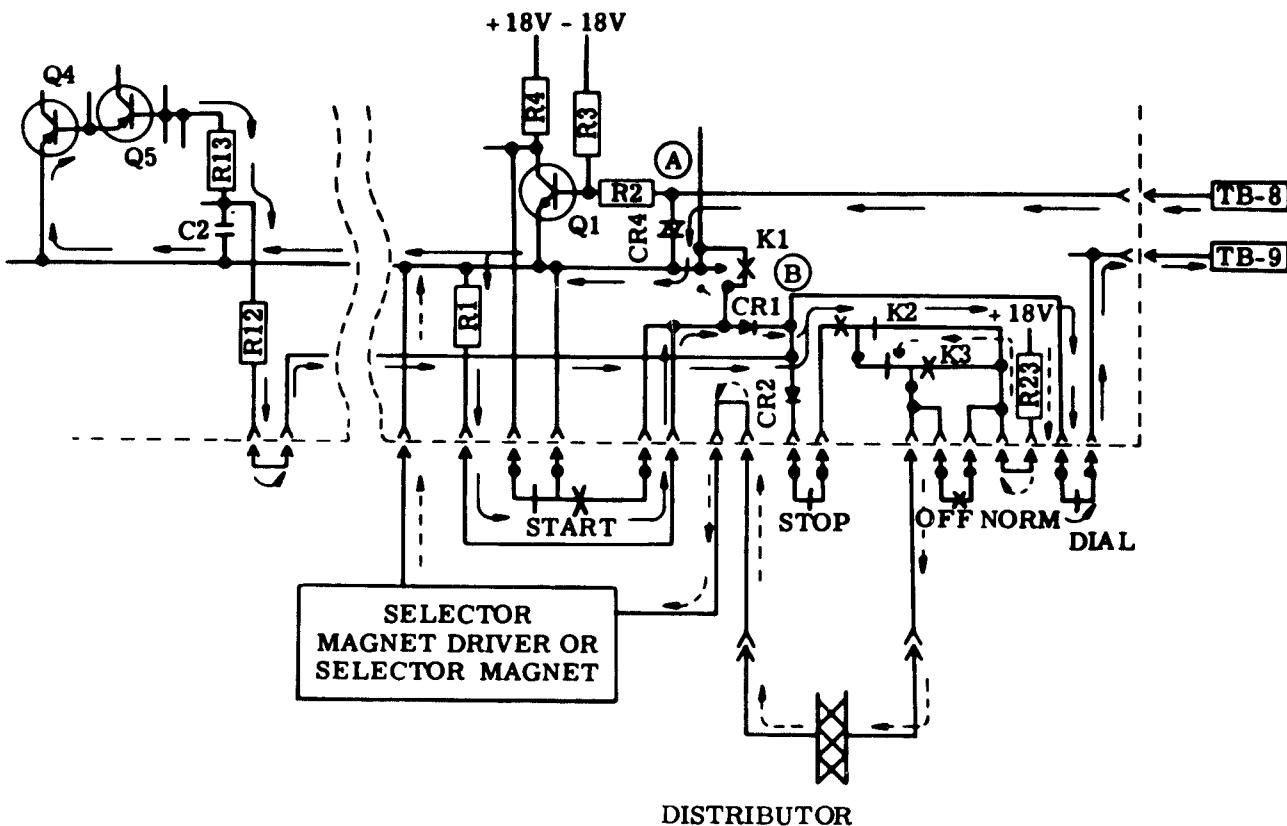

Figure 8 - Local-Remote Control Circuit – Current Flow (Idle)
**3.25** The schematic diagram of the local-remote control circuit (Figure 8) shows the current flow during the idle line condition. In this state, all relays and lamps are off. This requires that transistors Q3, Q6, and Q9 be off and that Q2, Q4, and Q8 be in conduction. The output transistor of the motor delay timer is off, and the selector magnet driver is marking.
**3.26** The signal loop is a 240-volt source with 4000 ohms in series. In the idle condition the local-remote control offers 43,800 ohms of local resistance to the signal loop. The flow of loop current in this condition is shown in Figure 8. Current flows from TB8, the positive idle terminal, across CR4, through R1 and CR1 in parallel with the base emitter junction of Q4 and Q5, R13 and R12. From this point, current flows through the dial pulse contacts to terminal TB9.
3.27 The loop current develops a positive potential at A in Figure 8 holding Q1 on. The collector of Q1 is shorted to ground through START pushbutton contacts 1 and 2. Therefore, no signal may be developed at the collector unless the START pushbutton is depressed. The loop current develops approximately a -200 volt potential at point B. This potential will hold Q4 in conduction while holding Q6 and the connect circuit off.
and the unit to revert to the idle line condition. The current loop is shown in Figure 8.
**3.33 Remote Connection:** On an incoming call, the teletypewriter may be connected remotely while in the idle line or local conditions. The loop path is shown in Figure 8 for both of these conditions. The incoming call causes the exchange to reverse the loop polarity. This causes the potential at the junction of CR1 and CR2 to change from -200 volts to approximately +200 volts. The potential causes the connect circuit to operate as described in 3.32
**3.35 Local Disconnect:** Operation of the STOP pushbutton while in the connect condition opens contacts 4 and 5 which are in series with the loop, and breaks the loop. When the exchange recognizes the break, it reverses the loop polarity. The reverse polarity is blocked by CR2, and current flows through CR1 along the path shown in Figure 8. At point A a -200 volt potential is developed due to the current flow described in 3.26 through 3.28. This potential causes the connect circuit to turn off and the teletypewriter stops running open. The input to the motor delay timer becomes negative, and the timer will time out. After 0.55 second the motor control relay releases, and the motor will turn off.